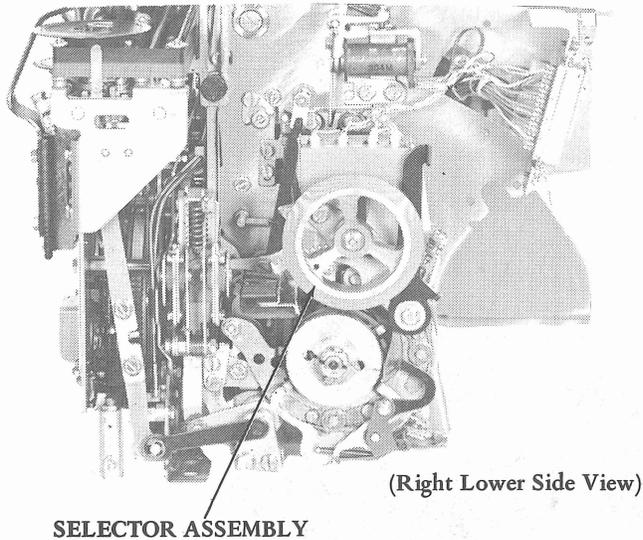

Figure 13 - Selector Assembly Mounted in Typing Unit
2.33 To remove the selector assembly from the unit, proceed as follows (Figure 13).
2.34 To replace the selector assembly (Figure 13), reverse the procedure used in removal. Replace the selector cam sleeve assembly and clutch as in 2.32. Check the following adjustments: